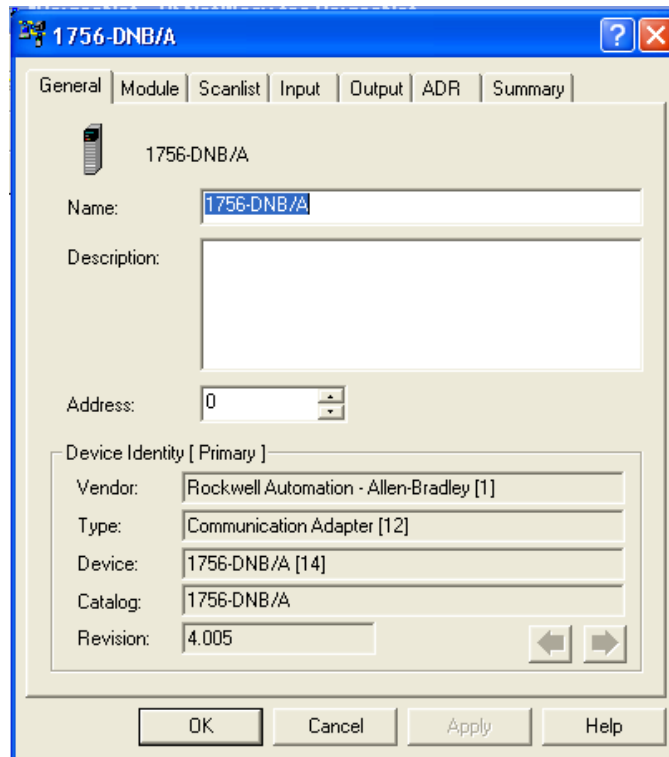

Figure 3-17: Scanner Properties Dialog: Initial View
6. The scanner's properties dialog box will appear, as in Figure 3-17.